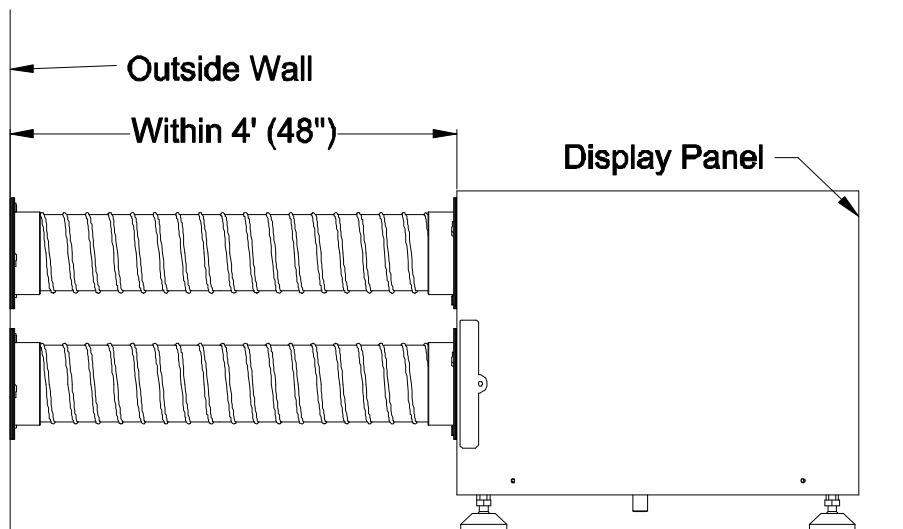

Figure 2.1
1. Choose a firm, flat and level location next to the structure. Be aware of anything that may be sensitive to water as the unit will drain water from the condensation drain tube onto the ground. The unit must be within 4' (48") of the structure (closer, if there will be bends in the air hose) and 6' to a 120V power outlet. The closer the unit is to the structure, the better the airflow will be. (See Figure 2.1)